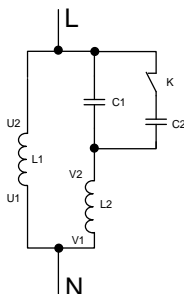

Figure 2-3 Internal wiring of the 1PH motor with starting and running capacitors
(1) 1PH control: Connect the motor phase line to U and W of inverter terminal ⑥, connect the motor enclosure to the PE pin. There is no need to remove the starting capacitor and the wiring is easy. But the starting performance is not as good as that in 2PH control mode, so this wiring mode is applicable only to some motors.
(2) 2PH control: It is necessary to remove the starting capacitor and operation capacitor (if any). The wiring of a general motor is shown in Figure 2.3: L1 is the running winding, L2 is the starting winding, C1 is the running capacitor, C2 is the starting capacitor, and when the motor speed exceeds 75% of the rated speed, the starting capacitor is switched off through the centrifugal switch K.